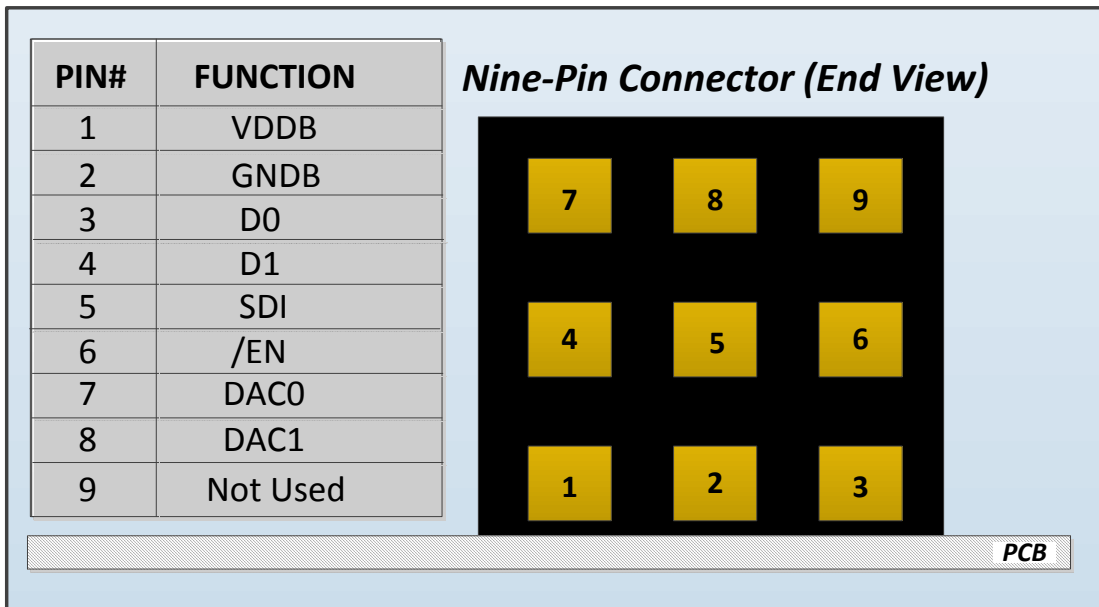

Figure 7. Low Voltage Connections to Output Connector P1
10. Connect the dc supply outputs to the VDDDB and GNDB input pins of P1, as shown in Figure 7.
11. Turn the oscilloscope on and connect oscilloscope probes to the DAC0 and DAC1 output pins of P1, as shown in Figure 7.
- Updated Figure 7 on page 8.